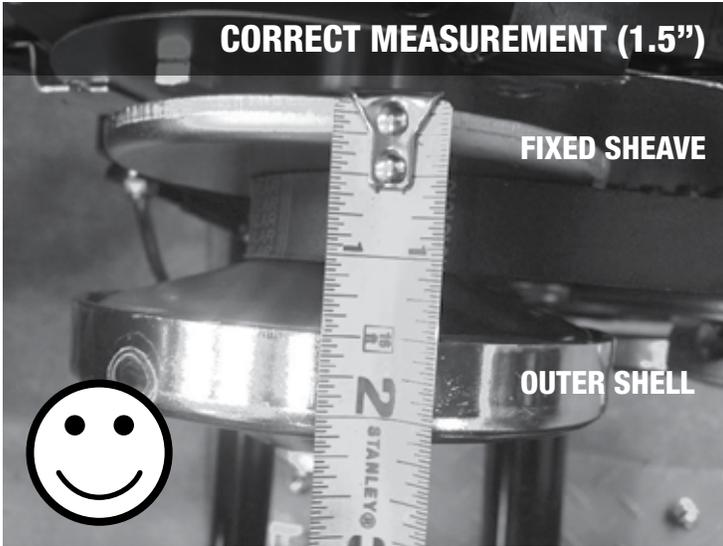

fig. 3
- Fig 3 – IF the distance measures 1 5/8", the speed reduction spacer will need to be removed. Go to step 3.